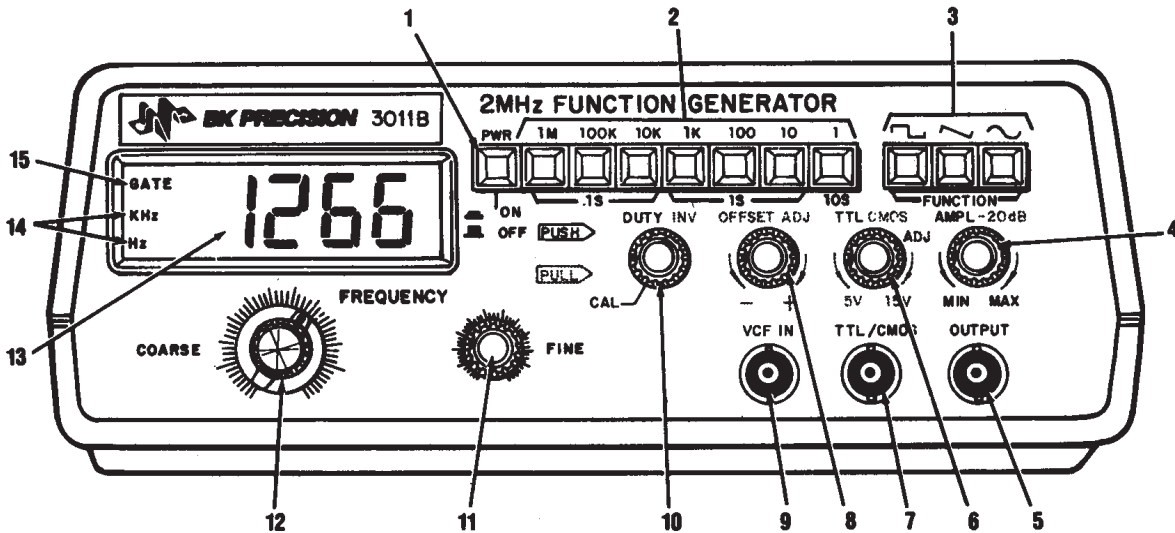

Fig. 6 The front panel of the function generator, with controls marked.
Figure 6 shows the control panel of the function generator most often used in this lab. The instrument is turned on with the power switch, item (1) in the figure. A sine, square or triangle waveform is selected with the buttons labeled FUNCTION (3). The frequency range is determined by pushbuttons (2), and the exact frequency is then set using the coarse and fine FREQUENCY knobs (12, 11). The output amplitude is determined by the AMPL knob (4). Pulling gently on the AMPL knob decreases the output amplitude by a factor of 10. The display (13) shows the output frequency numerically in Hz or kHz, according to the indicator (14) and decimal point on the display. The selected output appears as a voltage at OUTPUT (5).